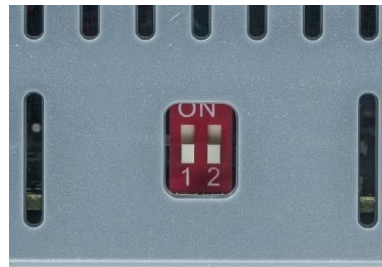

Figure 2-14 DIP Switches
3. Set DIP switches, 1 and 2, to ON (up, in Figure 2-14), and restore power to the transmitter.